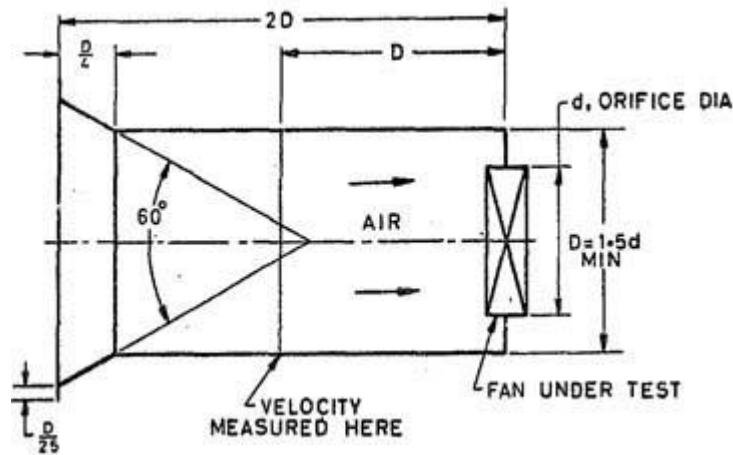

Fig. 2A Round Testing Duct for Propeller Fans
5.1.1 To the inlet side of the blower attach a cylindrical airway of diameter D not less than $1.5d$ where d is the diameter of orifice in which the impeller rotates (*see Fig. 2A*). To the inlet side of the airway shall be fitted a conical mouthpiece of length $D/4$ having an included angle of 60 degrees converging towards the blower, and a radial flange at its inlet end of width $D/25$. The total length of the test duct including the conical mouthpiece shall not be less than $2D$.